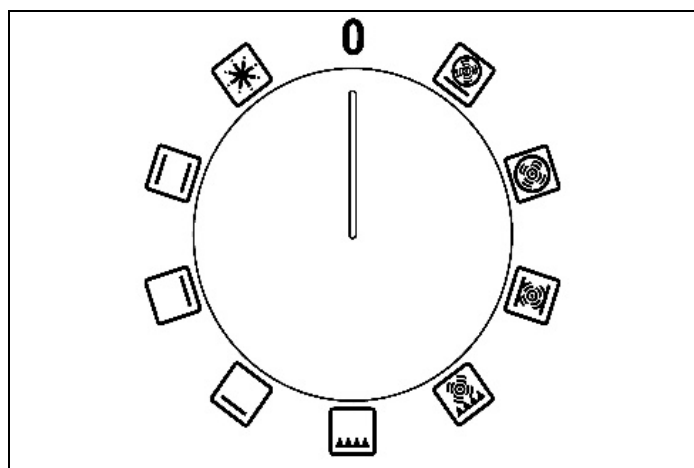

Fig. 19
- Turn the functions knob (Fig. 19) clockwise to select the function required. The orange light comes on to indicate that the heating element is in operation.